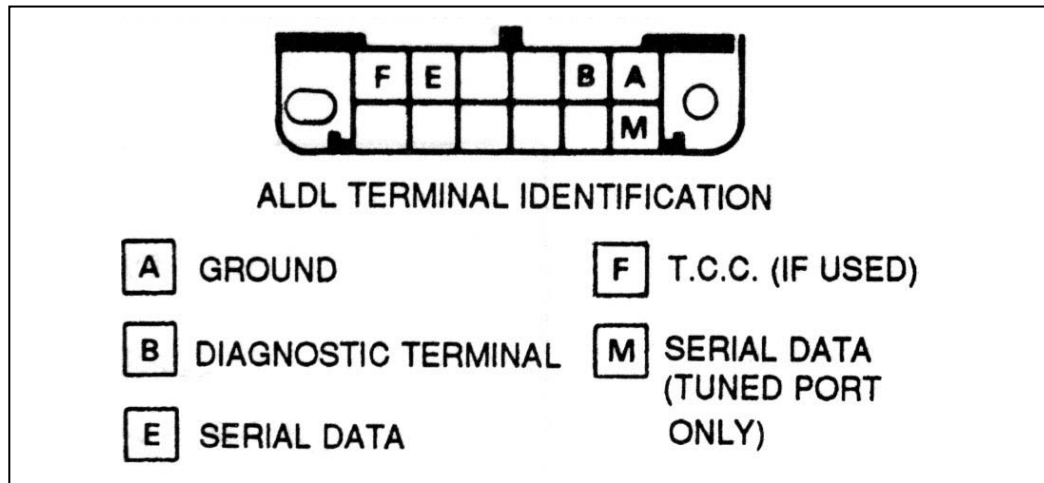

Figure 6.1 Assembly Line Diagnostic Link (ALDL) Connector
The wires in this group consist of the assembly line diagnostic link (ALDL) connector (See **Figure 6.1**), the check engine light (pre-installed into the ALDL mounting bracket), and four other wires.
- 7.2.1** In order to retrieve the trouble codes stored in the computer, locate the Assembly Line Diagnostic Link (ALDL) connector (installed and connected in **Paragraph 6.2.1**). Turn the ignition on, BUT DO NOT START THE CAR. Connect a jumper wire from ALDL terminal "A" to terminal "B" (see **Figure 6.1**) and observe the "check engine" light.